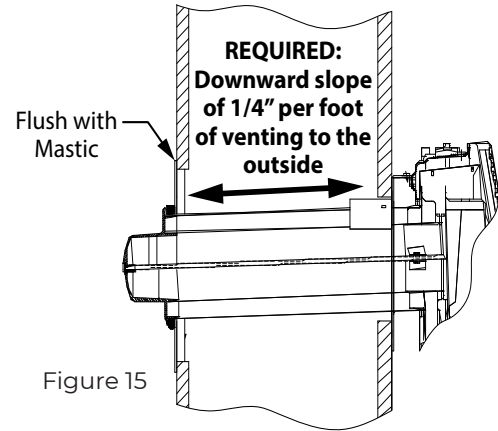

Figure 15
- Before attaching the vent cap (A) to the exterior wall, run a bead of non-hardening mastic (silicone caulk) around its outside edge, so as to make a seal between it and the outdoor mounting plate (F) (see figure 15).